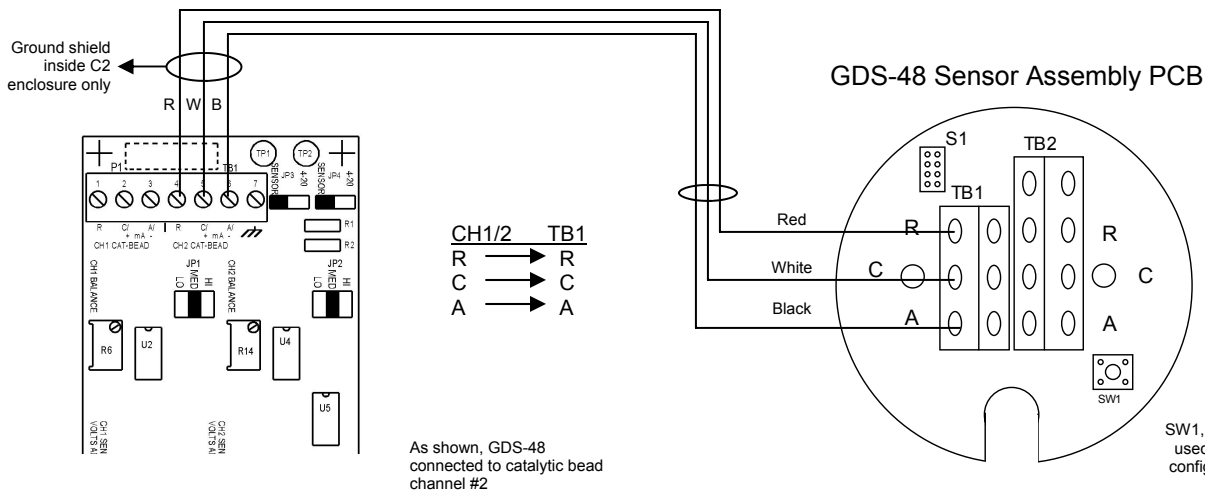

Fig 4. C2 Controller to GDS-48 Wiring Diagram for Catalytic Bead
- 2) Connect the C2 to the remote sensor housing as shown in Fig. 4.